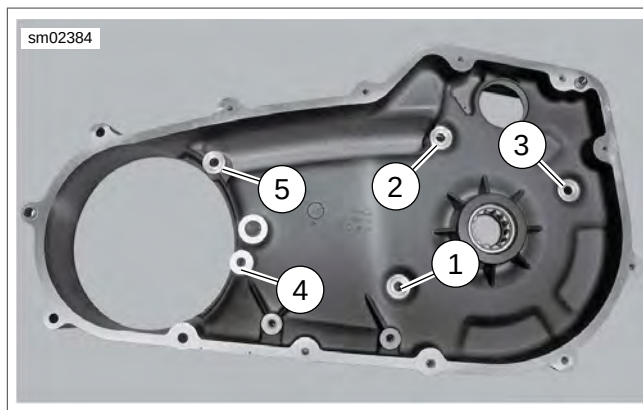

Figure 5-27. Primary Chaincase Sealing Fastener Torque Sequence
4. See Figure 5-27. Tighten fasteners in sequence shown to 26-28 ft-lbs (35.3-38.0 Nm).